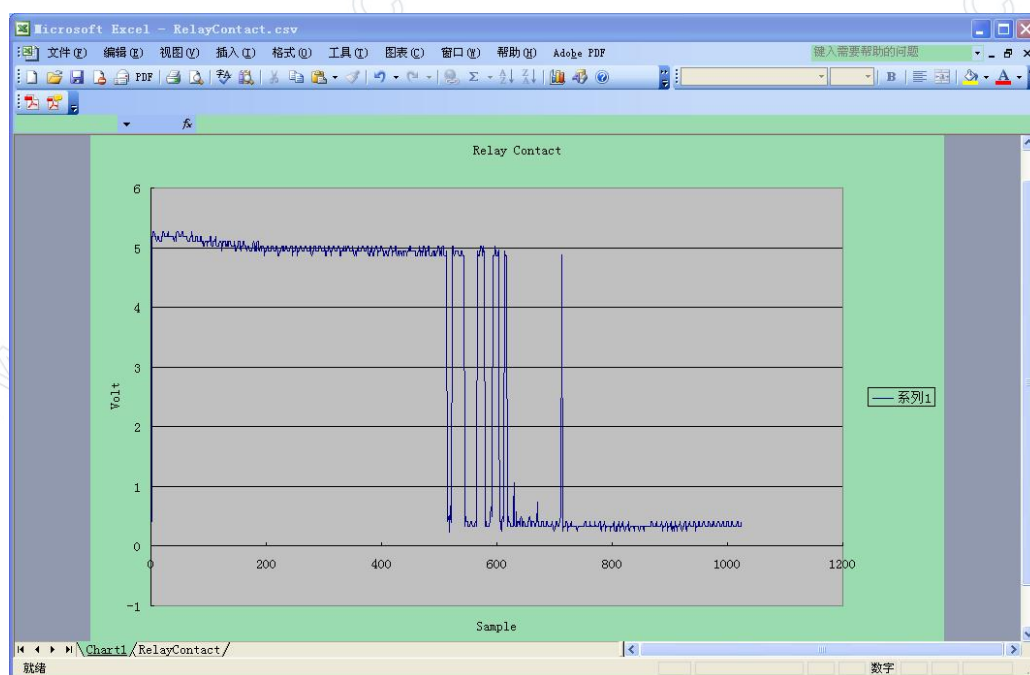

Fig. 16
- Click Finish. You would get waveform plotted similar to that shown in Fig.16.